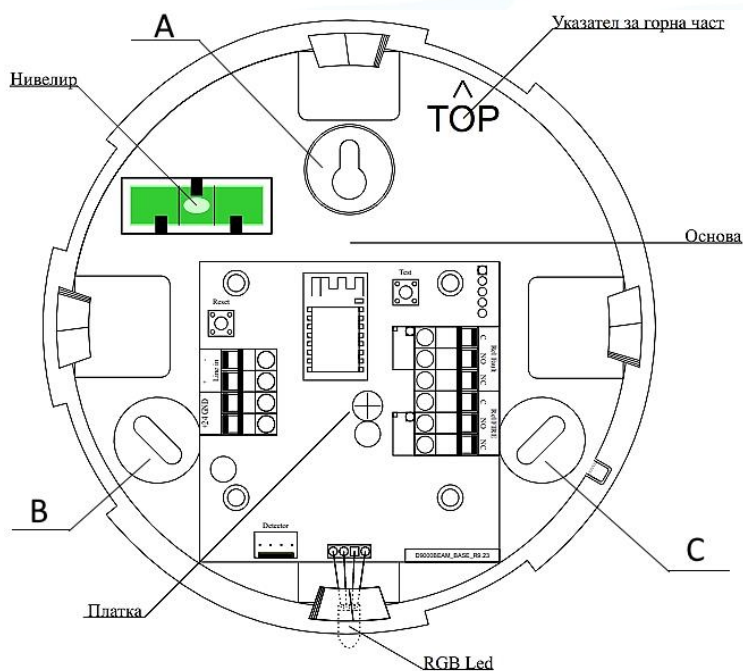

Fig.1
Color of the LED indicator (RGB LED - Fig.1):	Detector Status:
- The base is installed using the mounting holes A, B, C (Fig.1)
- The upper end of the base is marked with the inscription "TOP" (Fig.1)
- Alignment is carried out through the built-in spirit level (Fig.1)
- When driving Screws/Bolts through mounting holes B and C, approach with caution so as not to damage the board! (Fig.1)